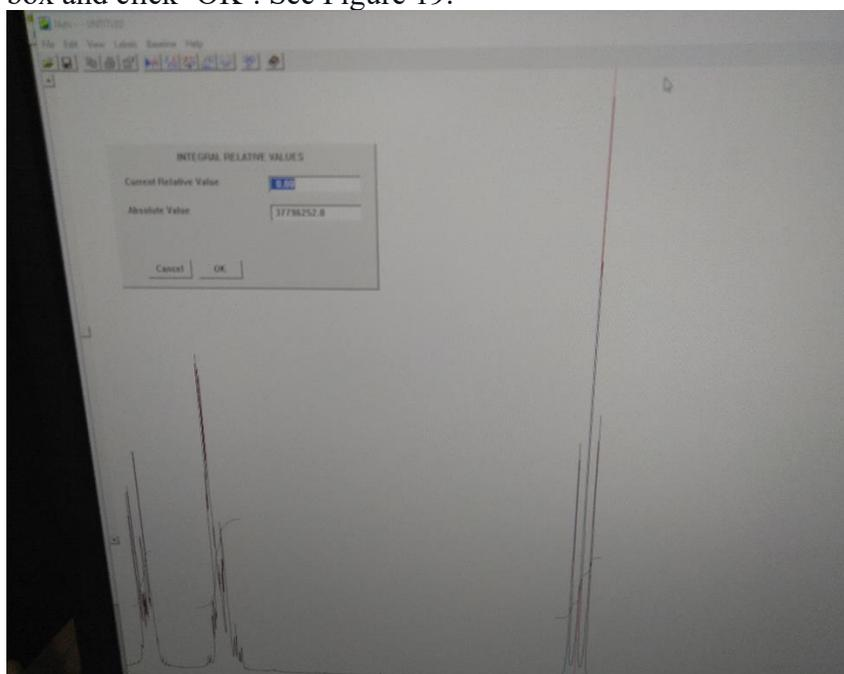

Figure 19. NUTS program screen showing the addition of integration value.
- 23) After integrating all peaks (except TMS), bring the cursor to the smallest peak. Click the left mouse button and the letter 'V' simultaneously. Type 1 in the highlighted blue box and click 'OK'. See Figure 19.